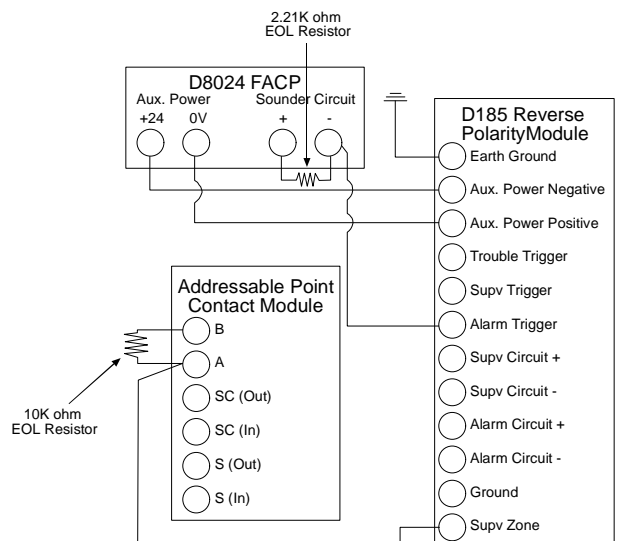

Figure 18: Remote Station Signaling
- Connect the D185 to the control panel and point contact module as shown in Figure 18. **Be sure to connect the supervisory zone input on the D185 to Terminal A of the point contact module.**